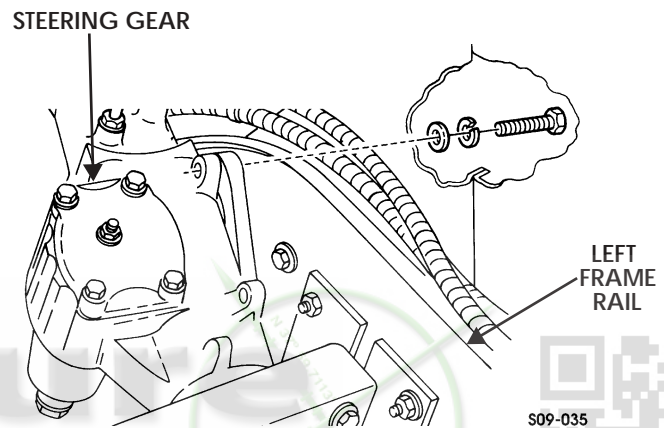

Figure 9-47: Steering Gear and Left Frame Rail
8. Remove three capscrews, lockwashers, and washers and pull steering gear away from left frame rail. Discard lockwashers (Figure 9-47).
10. Secure steering gear to left frame rail with three washers, lockwashers, and capscrews. Tighten capscrews to 60 lb-ft (81 N•m) (Figure 9-47).